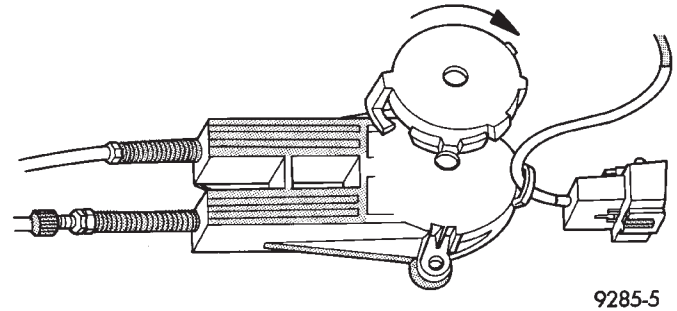

Fig. 9 Wind Assist Spring Cover
(2) Before installing new spring, power the motor into the full-up position.
(3) Replace assist spring on cable housing. Wind spring clockwise 3 1/2 turns on the left door. The right door, wind spring counter clockwise 3 1/2 turns (Fig. 9).